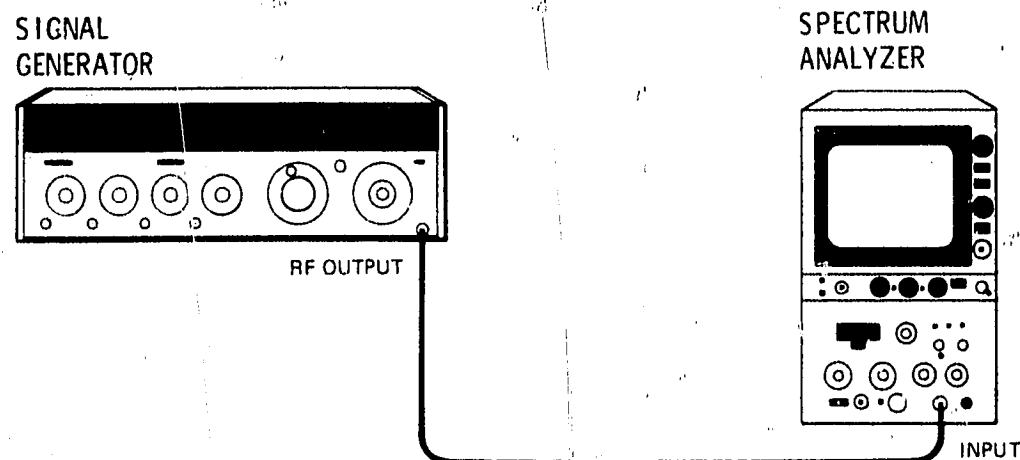

Figure 4-12. Resolution Bandwidth Selectivity Test Setup, 100 kHz to 3 MHz
12. Connect equipment as shown in Figure 4-12.